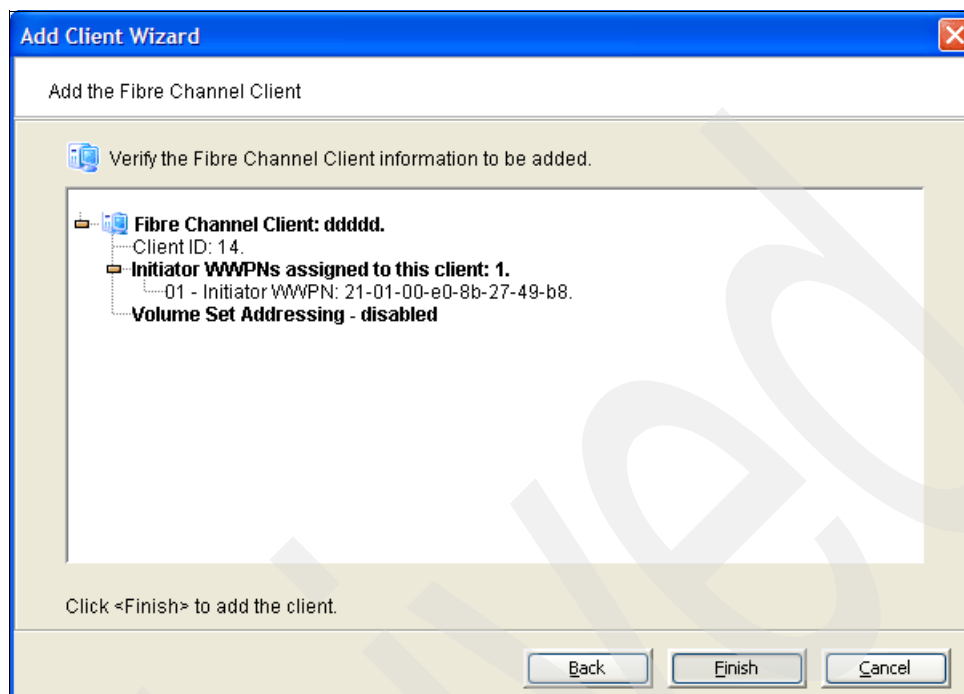

Figure 6-57 Add SAN clients: Verify the Fibre Channel client information
- The next window (Figure 6-57) shows you a summary of your selections. If the information is correct, click **Finish**.